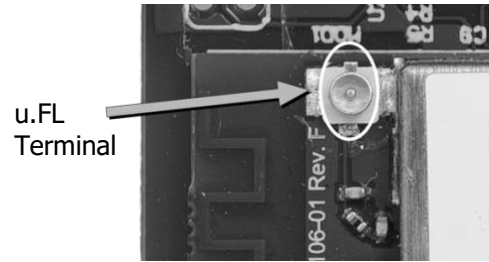
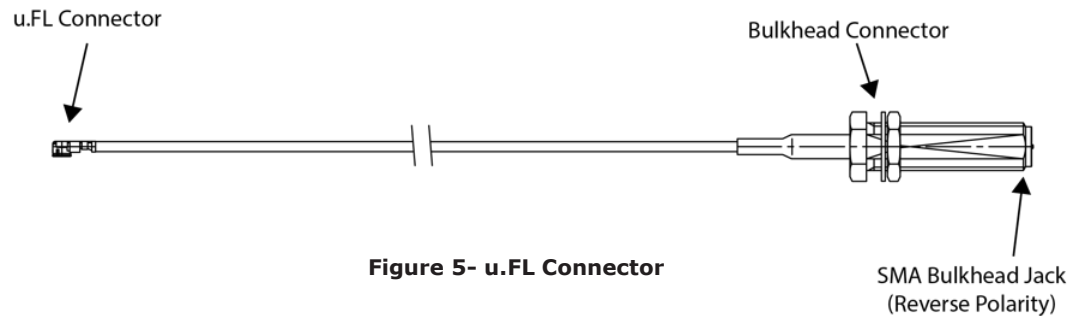

Figure 4- u.FL Terminal
Figure 5- u.FL Connector
2. Attach the 50 OHM Terminator to the RP-SMA bulkhead hand tight before attaching the u.FL cable (Figure 5) to the u.FL terminal (Figure 4). Keep the 50 OHM Terminator on the cable until mounting the bulkhead in the fixture or attaching an antenna for testing.